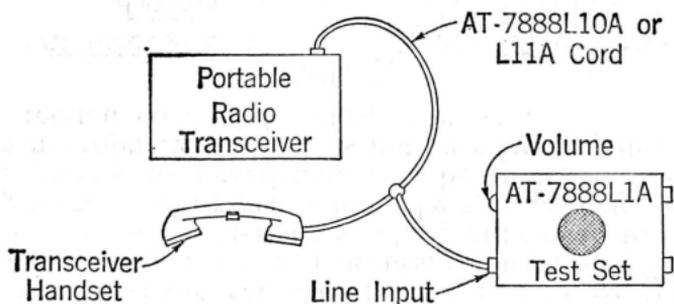

Fig. 6
4.05 **Portable Radio Receiver:** The method of using and the cord required for connecting the speaker set to a Motorola or Bendix radio set are shown in Fig. 6. Use the L10A cord with Motorola set and the L11A cord with a Bendix set. The speaker set volume replaces the receiver of the handset. Adjust the speaker set volume to the desired level.